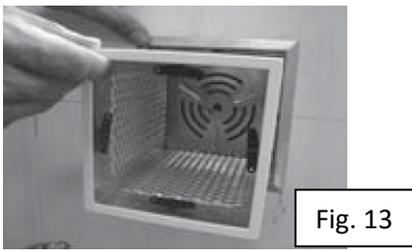

Fig. 13
- Firmly grasp the trim or trimless flange and pull downwards to disengage. [Fig. 13]